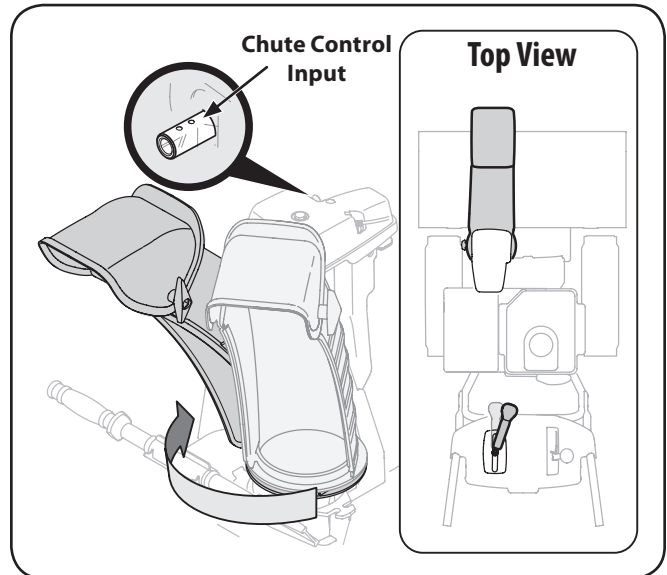

**Figure 3-4**
2. Insert chute control rod into chute control head. Push rod as far into chute control head as possible, keeping the holes in the rod pointing upward. See Figure 3-4.